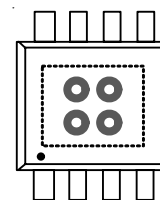

Figure 8. Standard PTH to GND Plane
- ▶ Utilize Standard PTH (Plated Through Hole, 25mil diameter, as Figure 8) to Via down from Exposed Pad on Top Layer, to GND Plane on PCB.